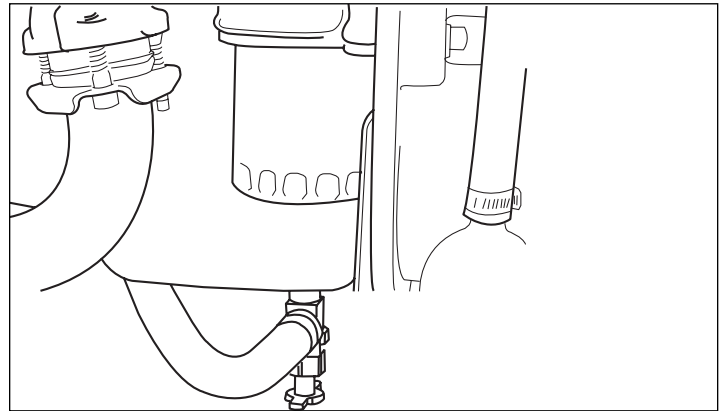

Figure 2
1. Place oil drain hose (A, Figure 2) into an approved container.
2. Open valve (B) located at bottom of oil pan.